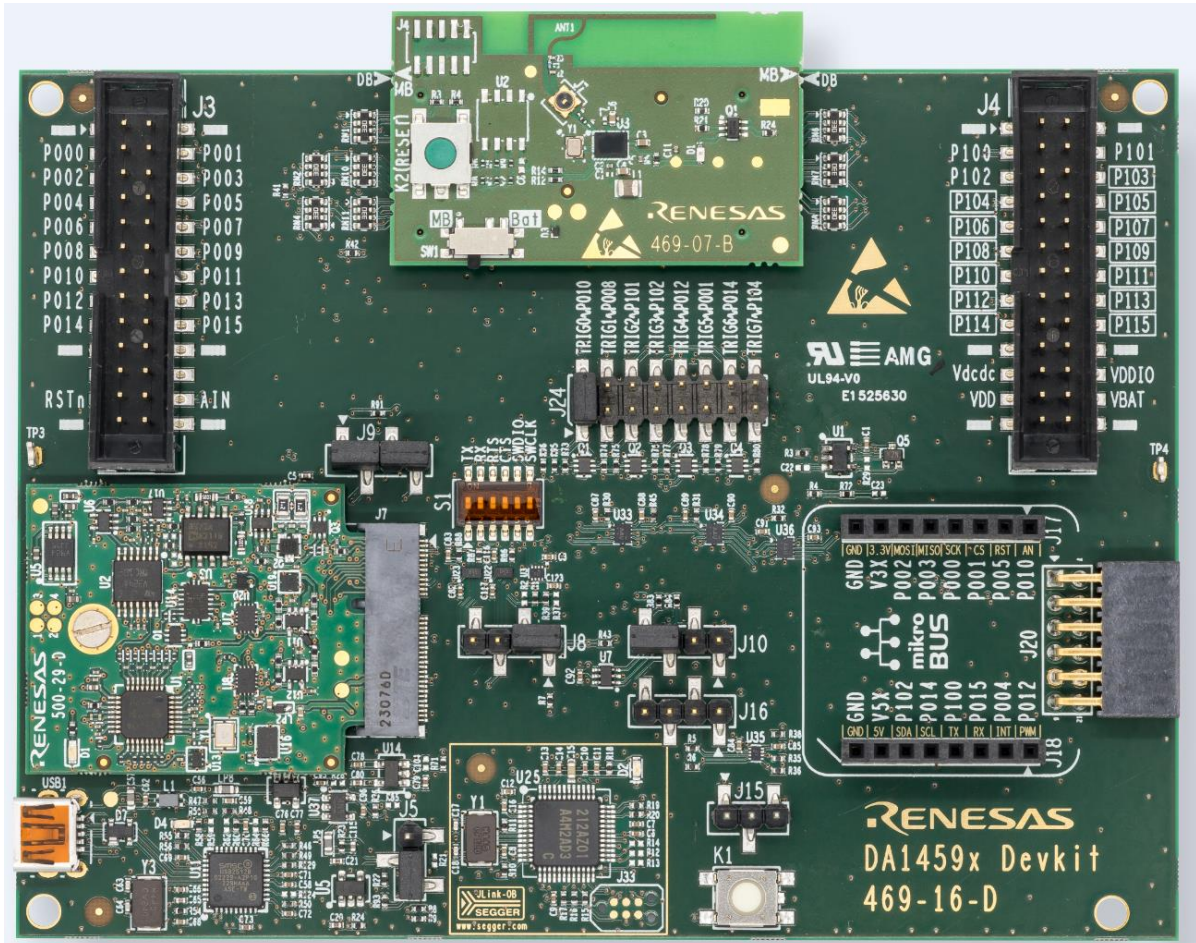

Figure 1. DA1459x PRO Devkit with PRO-MB and the PRO-DB
This document describes the hardware of DA1459x PRO development kit (DK). The DA1459x Pro DK is available as a motherboard, two variants of a daughterboard (FCQFN52/WLCSP39) and the power measurement module PMM2, Figure 1.